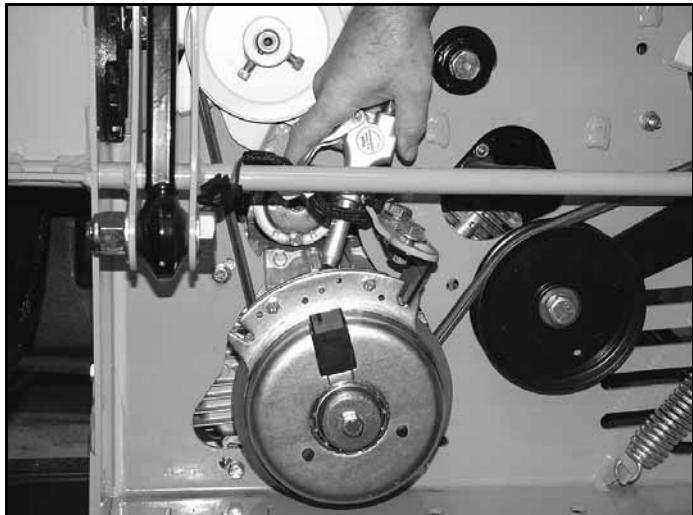

Figure 4-24
With engine off, key removed and clutch disengaged and using a pneumatic line, blow out any debris from under the brake pole and around the aluminum spacers. Figure 4-24
3. Using a pneumatic line, blow out any debris from under the brake pole and around the aluminum spacers. Figure 4-24